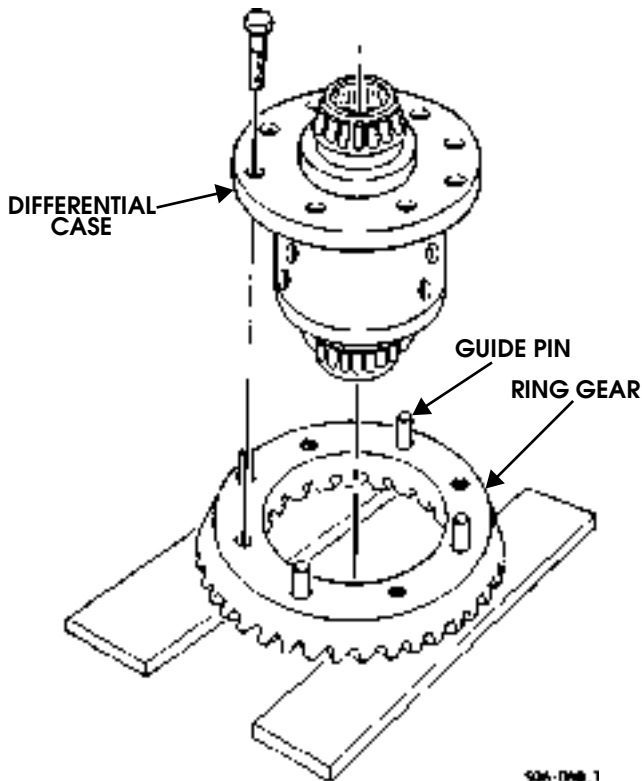

Figure 9-95: Ring Gear Guide Pin Installation
42. Install four guide pins in ring gear (Figure 9-95).